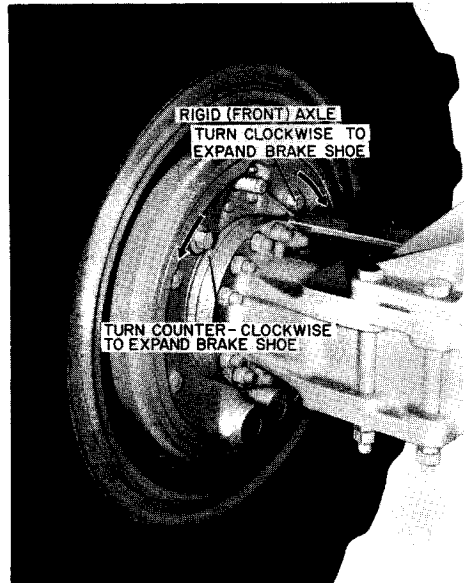

Figure 87
2. Expand brake shoes on each front wheel, as shown in Figure 87, until a heavy drag is felt when rotating the wheels.